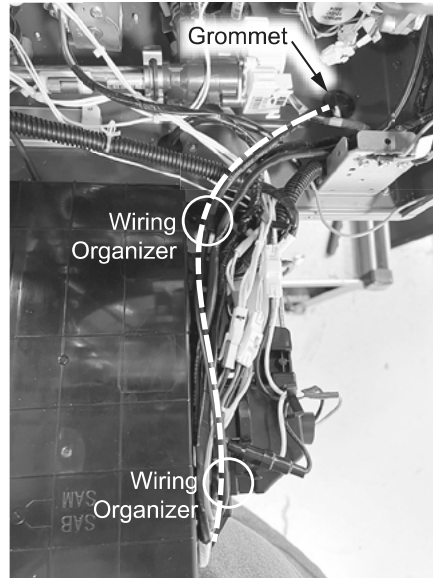

Figure 5 - Communication cable routing
- 14** Route the communication cable through the wiring organizers on the back of the control board panel. See Figure 5.